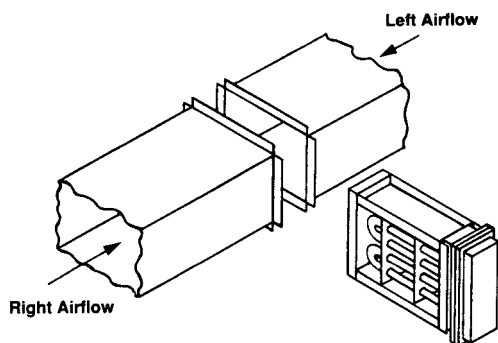

Figure 89. Standard Flanged Heater Installation
1. Construction Type – Standard flanged or optional slip-in. See Figures 89 and 90.